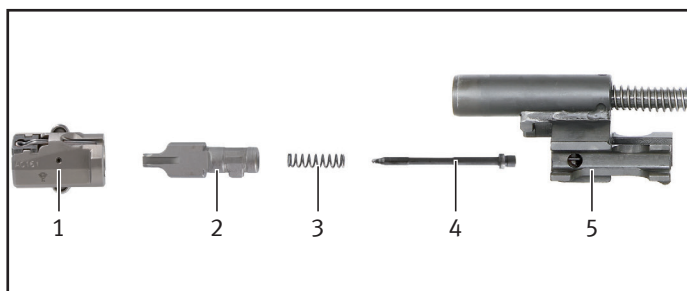
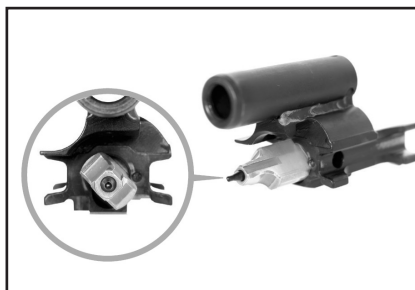

Fig. 45 – Assemble bolt group
Fig. 46 – Assembly position
1. Push pressure spring for firing pin onto firing pin (Fig. 45).
2. Place firing pin with pressure spring for firing pin into bolt head carrier (Fig. 45) Observe assembly position of locking piece (Fig. 46).
4. Turn locking piece anti-clockwise until assembly position has been reached (Fig. 46).